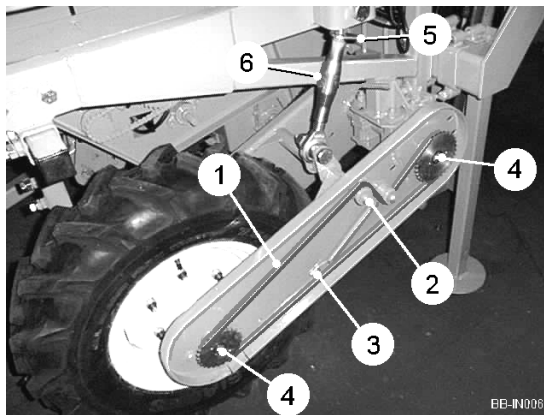
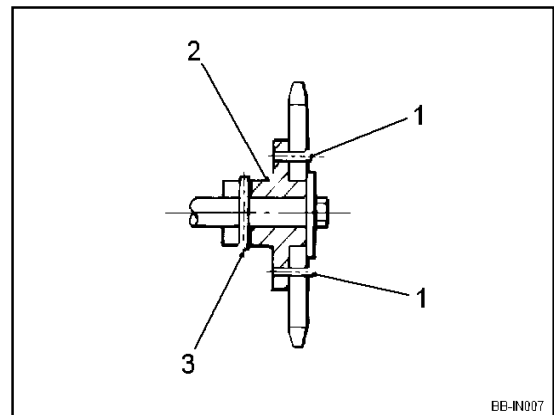

Fig. 18a
Fig. 18b
Remove the drive chain (item 1, fig. 18a) by rotating the tensioner (item 2, fig. 18a) to increase slack. If this is difficult, release the tension by loosening the spring anchor (item 3, fig. 18a). Remove the sprocket retaining bolts (item 4, fig. 18a) and slide the sprockets from their shafts. Fit the selected sprockets ensuring they locate on the driving pins (item 1, fig. 18b). When fitting the 18 tooth sprocket, the sprocket boss (item 2, fig. 18b) is not required. When refitting the sprocket boss, or fitting the 18 tooth sprocket, ensure the drive shaft pin (item 3, fig. 18b) engages in the boss. Replace the sprocket retaining bolts (item 4, fig. 18a). Re-fit the drive chain (item 1, fig. 18a) and adjust the tension by repositioning the spring anchor (item 3, fig. 18a).